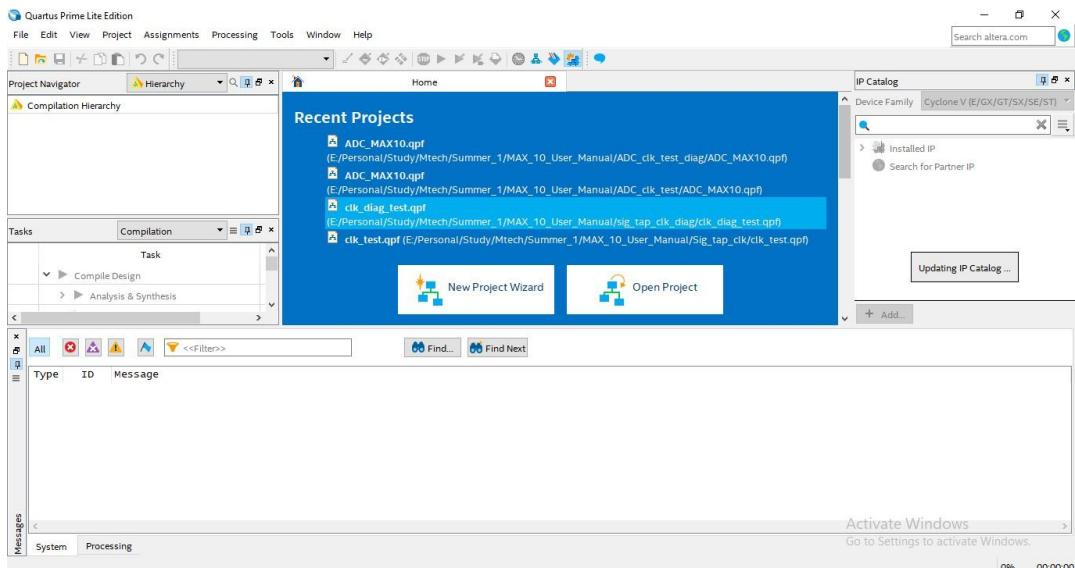

Figure 3: Quartus home page
1. Open Quartus II IDE. A pop-up will appear as shown in figure 3 asking you to either create a new project or open an existing one. Click on New Project Wizard. Alternatively, you may click on File → New Project Wizard.